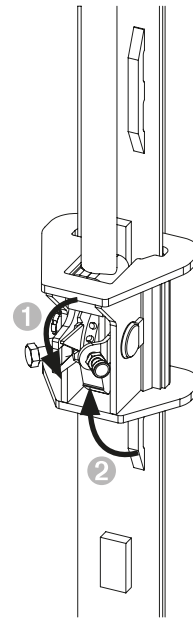

Fig. D2.04
2. Set the switch units in all the climbing heads to "Climbing the platform". (Fig. D2.04)